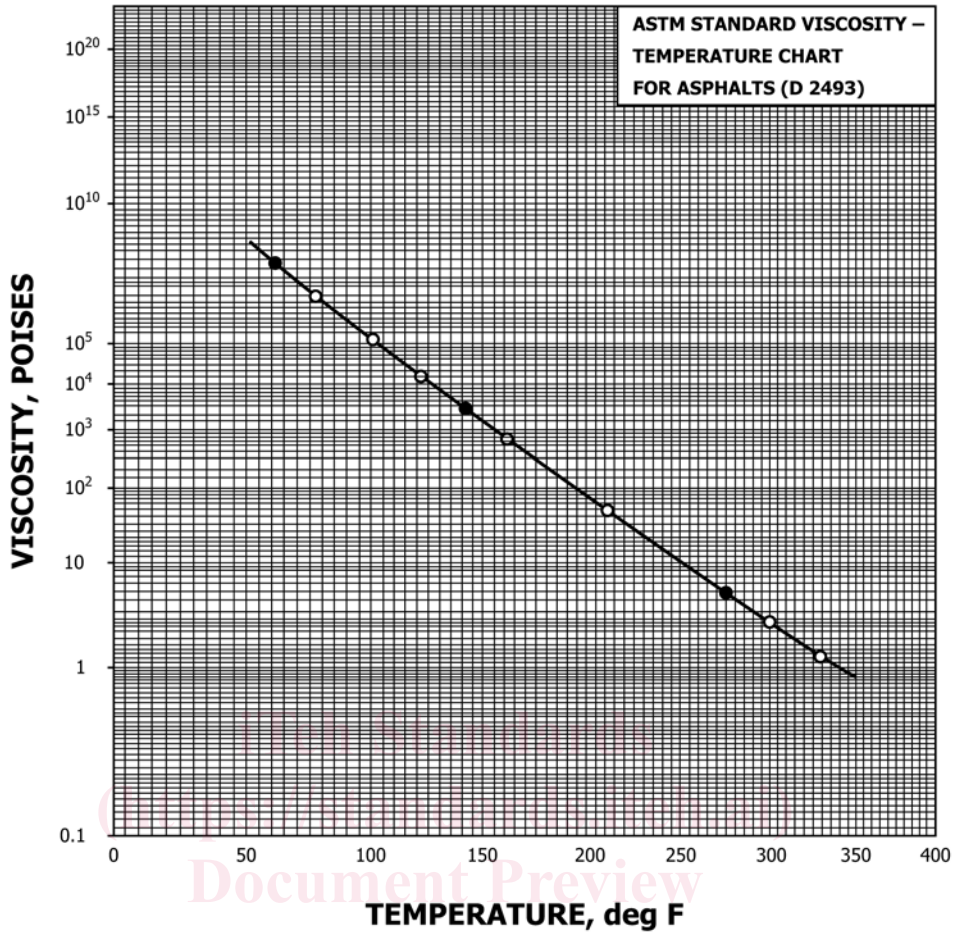

FIG. 1 Viscosity-Temperature Chart for Asphalt Binders on Which a Typical Experimental Curve Has Been Plotted
4.1 Fig. 1 shows an example viscosity-temperature chart. For Fig. 1, the chart coordinates are logarithm of the logarithm of the viscosity in centipoise as the ordinate, and logarithm of the absolute temperature in degrees Rankine (degrees F + 459.7) as the abscissa. However, the viscosity in poise and the temperature in degrees Fahrenheit are shown in the chart for convenience.
NOTE 2—Some asphalt binders have viscosity-temperature relationships too complex to be represented by only three points, as shown in Fig. 1. In this case, determine the viscosity at sufficient temperatures to produce a curve adequate for the purpose intended.